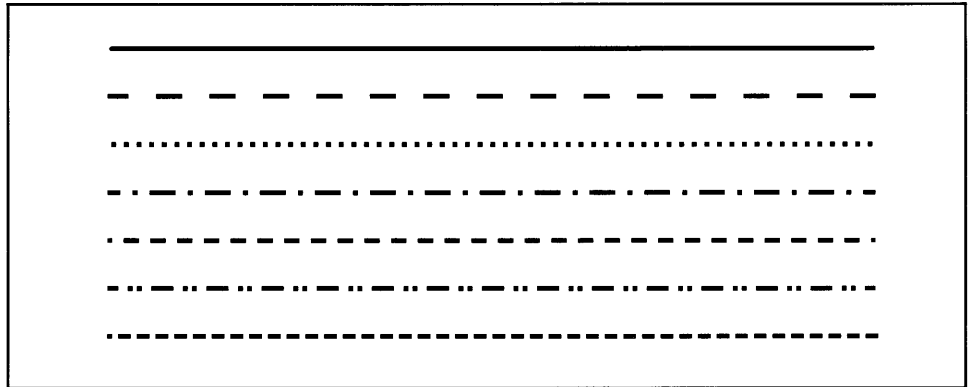

Figure 1-2. Polylines
- **Set Polyline Line Type.** Selects a line type from among those shown in Figure 1-2 or from a larger set, if additional types are supported by the selected device.